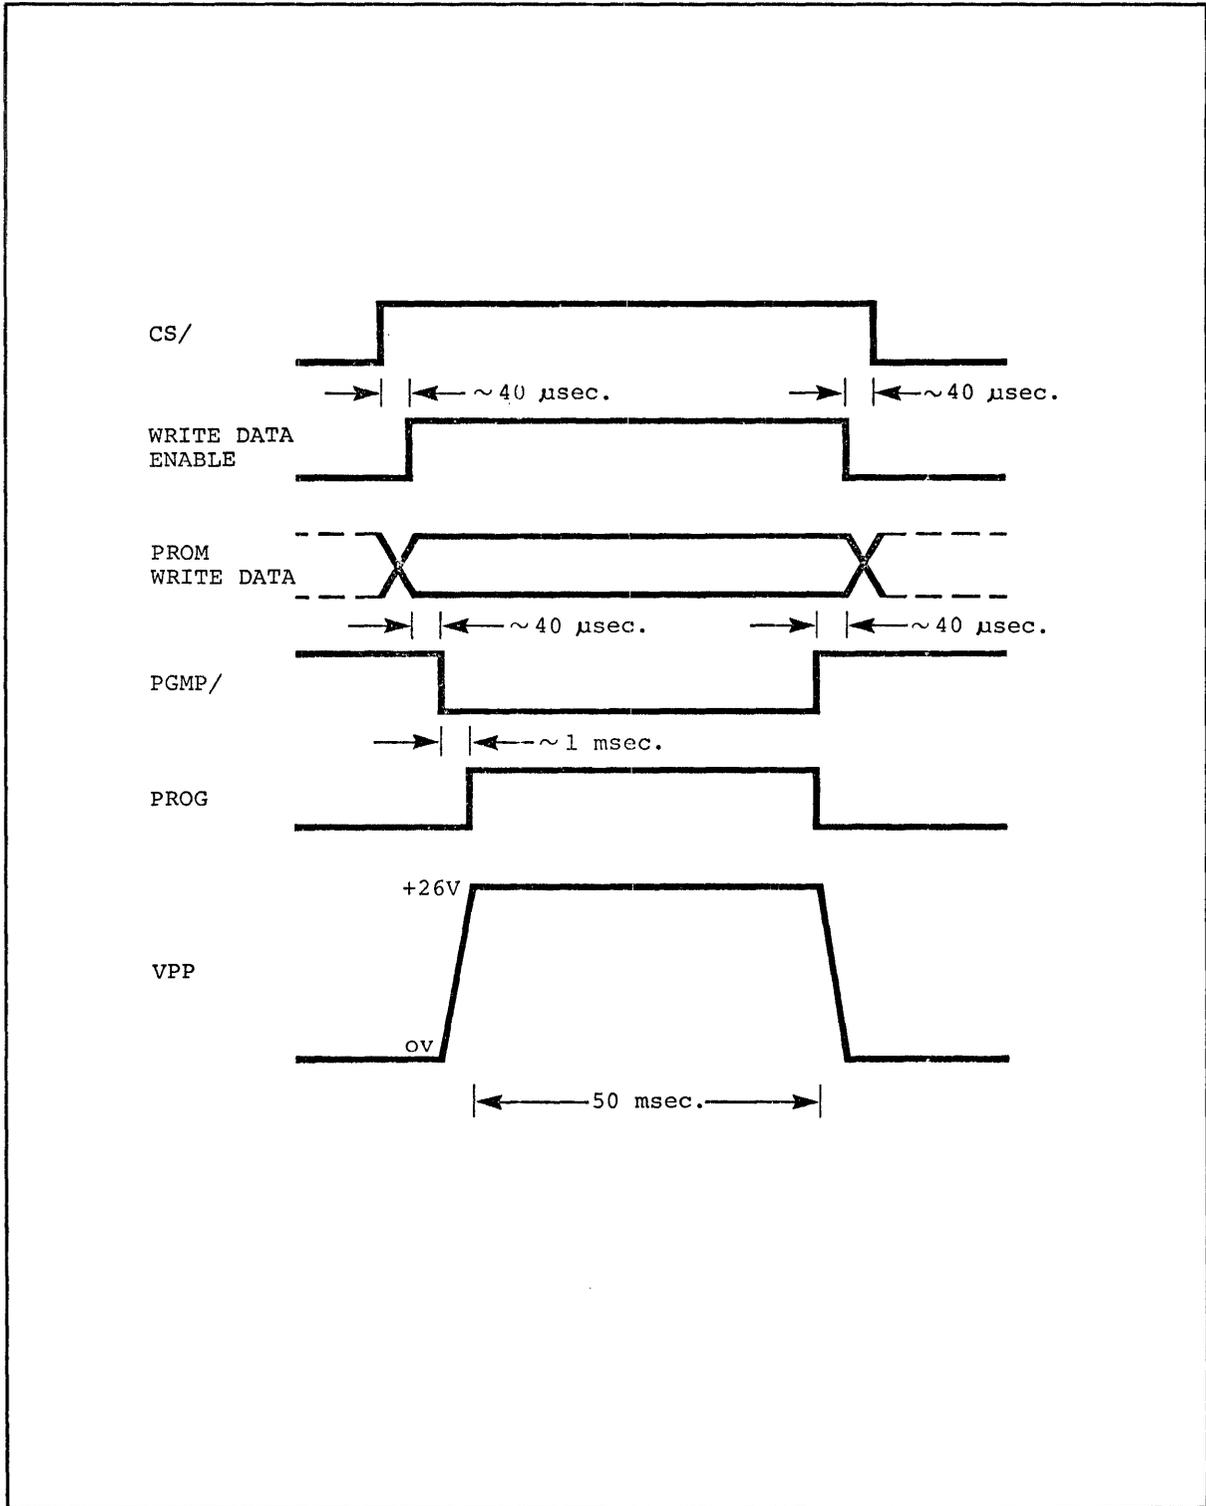

FIGURE 10-3. UPP-816 PERSONALITY CARD PROGRAM TIMING
- 2) The output from ROM (A12) port 1 causes CS/ to be pulsed as shown on the timing diagram, Figure 10-3.